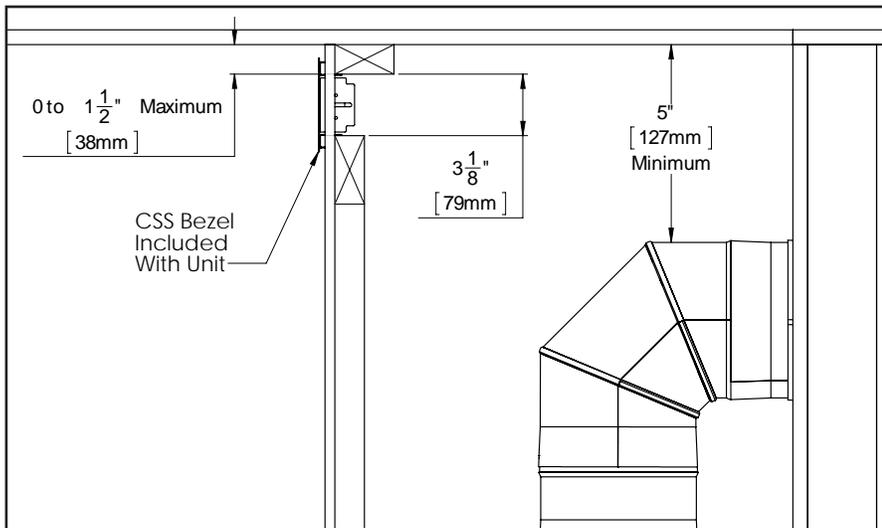

Figure 53: Option 3 Bezel
**Option 4: Bezel** - The included bezel may be desired to accentuate the CSS outlet. This installation will also cover the edge of the finishing material at the cutout. Construct the framing in a way that provides a 48 inch (1219mm) by 3 inch (76mm) cutout to mount the bezel. The top of the cutout must be 1 1/2" from the top of the chase. It is essential that these dimensions are followed and not to deviated from them when using combustible materials inside the chase (see Figure 53).